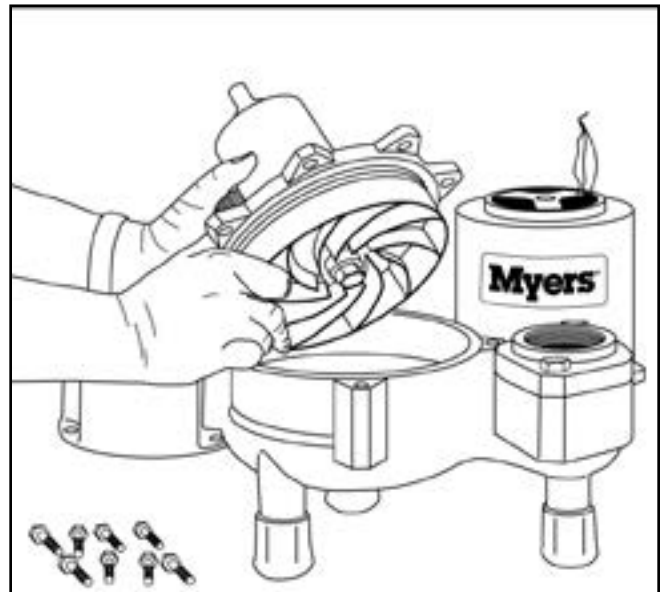

FIG. 17
4. Remove case holding bolts and lift out rotating unit. Pry between ears to loosen. Fig. 17